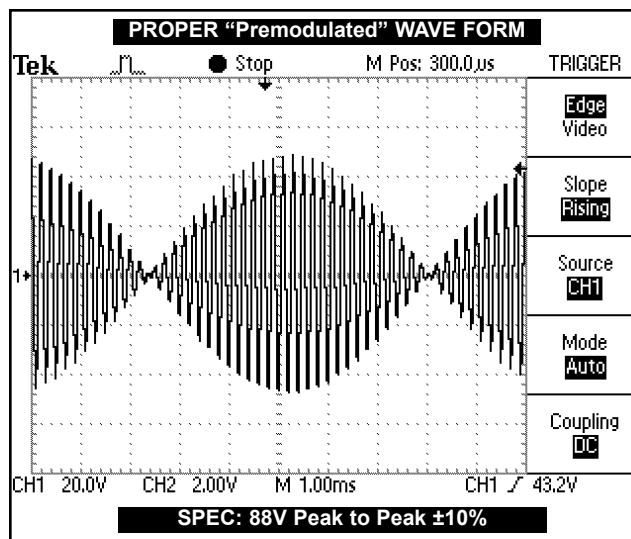

FIGURE 5.8
7. Compare wave form on scope to Figure 5.8.
1. Wave is the same between scope and Figure 5.8.